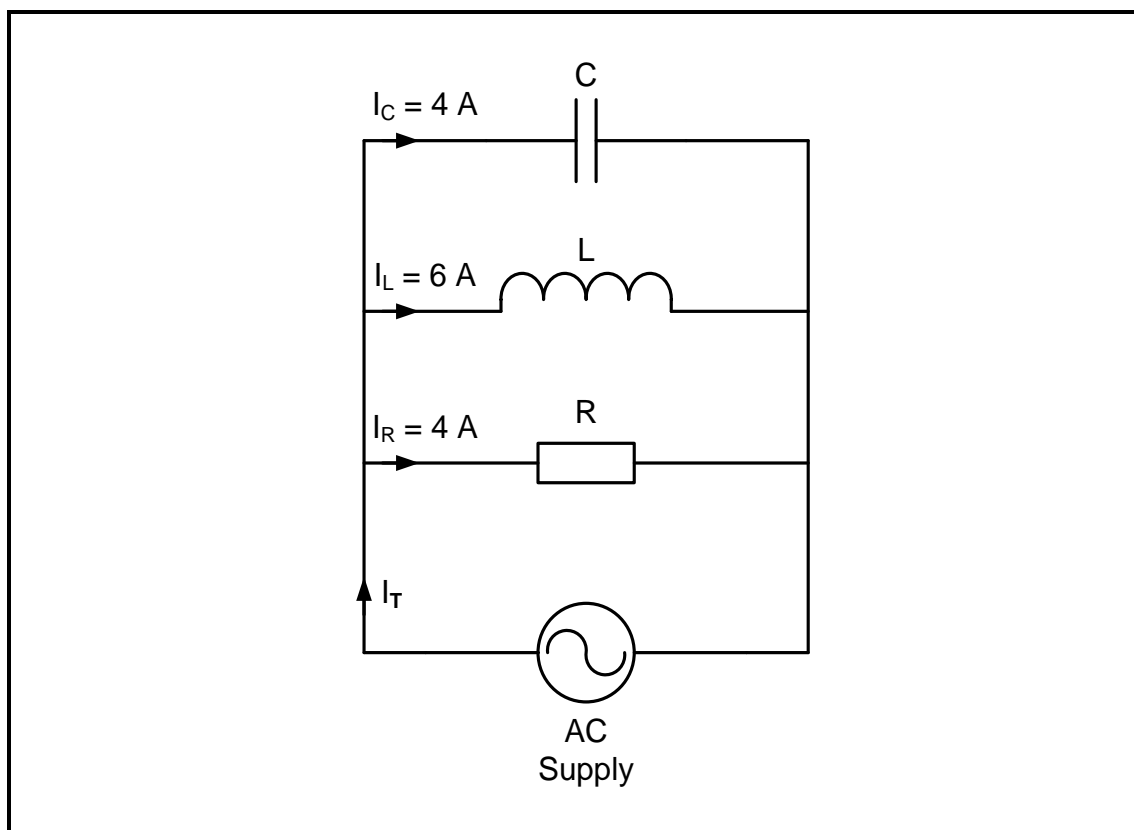

FIGURE 3.3: PARALLEL RLC CIRCUIT
3.3 Refer to FIGURE 3.3 below and answer the questions that follow.
3.3.3 Draw the phasor diagram for FIGURE 3.3. (4)